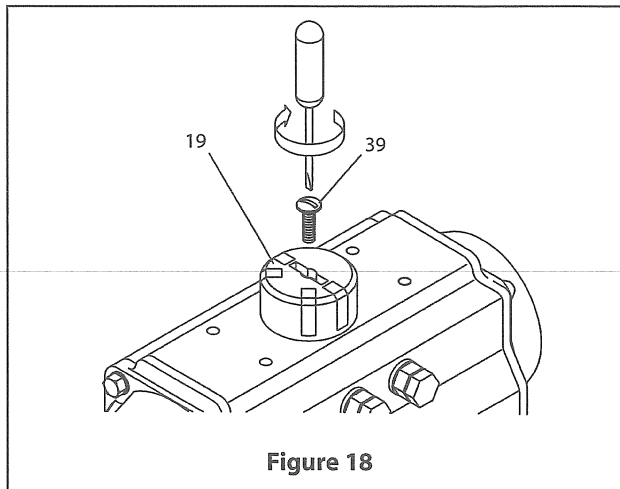

Figure 18
- B. If the valve is not in the correct clockwise position, turn the right stop adjustment screw (2) IN to reduce actuator travel, or OUT to increase actuator travel.
- C. When the correct clockwise position is obtained, hold the adjusting screw (2) stationary while tightening the lock nut (4).
- E. If the valve is not in the correct counter-clockwise position, turn the left stop adjustment screw (2) IN to reduce actuator travel, or OUT to increase actuator travel.
- F. When the correct counter-clockwise position is obtained, hold the adjusting screw (2) stationary while tightening the lock nut (4).
6. Position Indicator (19, 39) Assembly. (Figure 18):
- A. Fit position indicator (19) on the shaft (60), verifying that it indicates the correct actuator position.
- B. Tighten cap screw (39) to secure the position indicator.